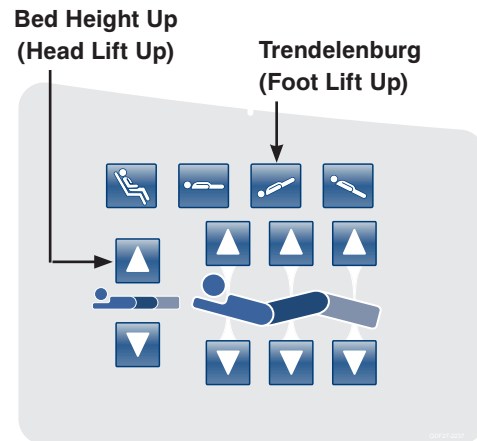

Figure 10: Head Siderail Control Panel (Right Side Shown)
10. Raise the bed height to 20 inches measuring from the top of the seat section to the floor. Press the **Bed Height Up (Head Lift Up)** and **Trendelenburg (Foot Lift Up)** buttons as shown in Figure 10.